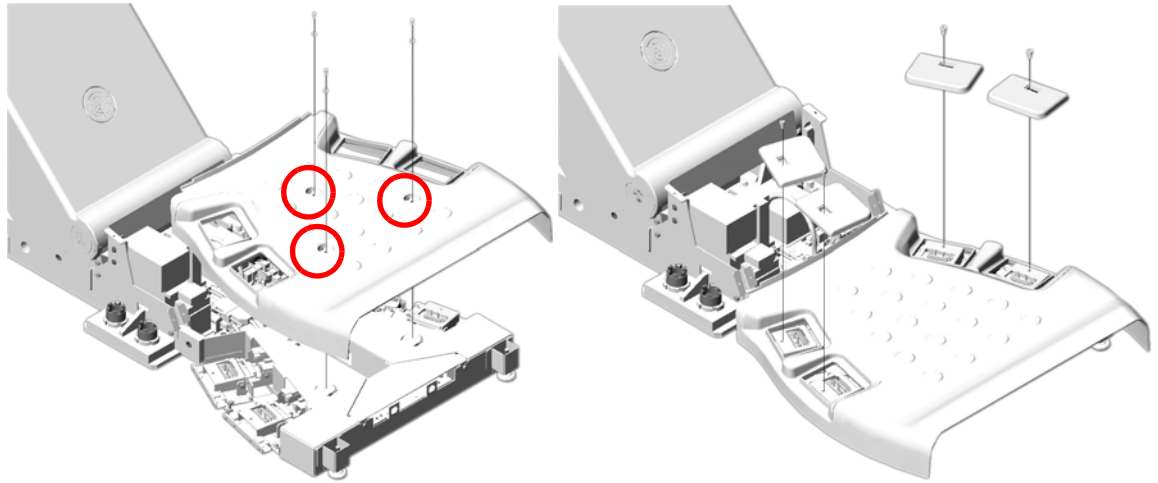

Figure 4-5 Footswitch Cove Installation
- 1.) Install the footswitch cover using three (3) screws (see Figure 4-5).